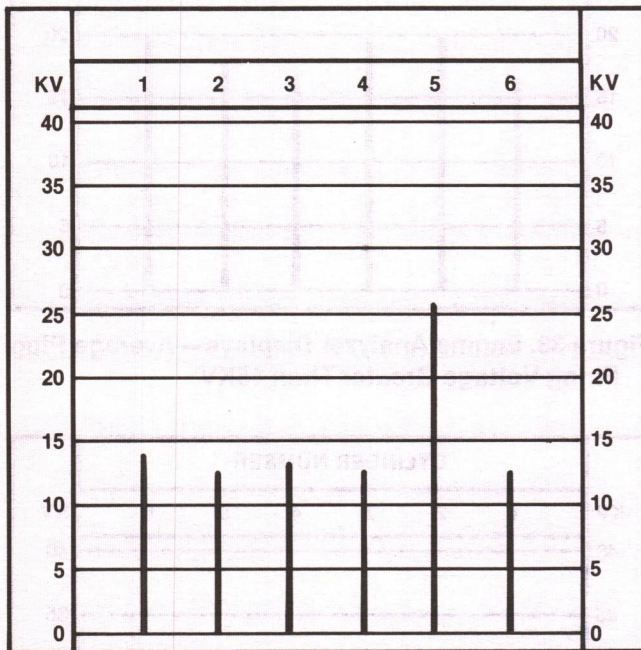

Figure 35. Engine Analyzer Displays—High Plug Firing Voltage in One Cylinder
6. Consistently high spark plug firing voltage in one or more cylinders (Fig. 35) may indicate: